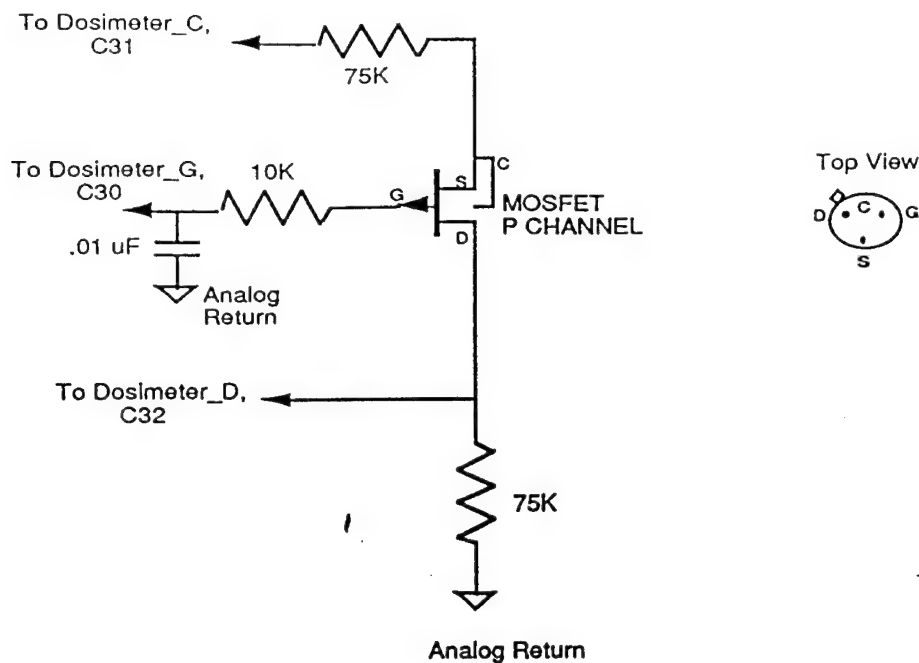

Figure 8 - Dosimeter Circuitry
3.2.7.5 Dosimeter Circuit. The dosimeter circuit is shown in Figure 8. The dosimeter will be provided by NRL. The dosimeter is in an 8-pin TO-5 (TO-99) package. The mechanical drawing is on the page following the 2-pin flatpack.